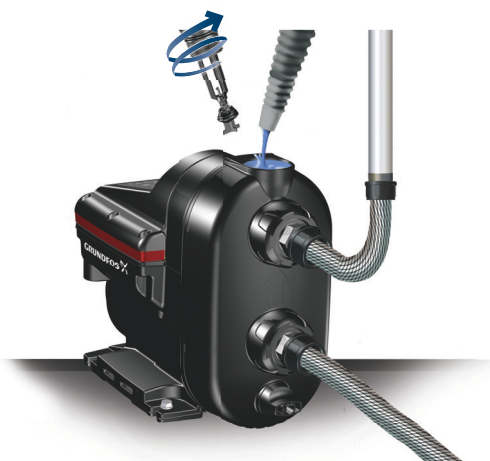

Fig. 8 Priming the pump
1. Unscrew the priming plug and pour minimum 1.7 litres (0.45 gallons) of water into the pump housing. See fig. 8.